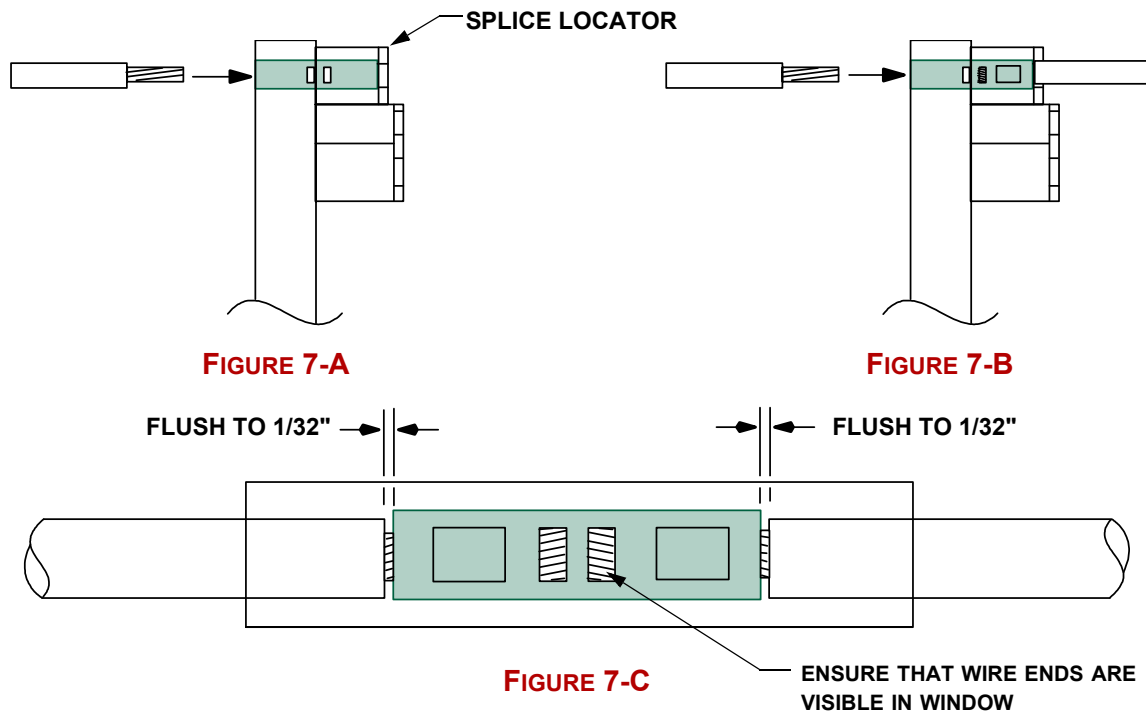

FIGURE 7 - CRIMPING OF ENVIRONMENT RESISTANT SPLICES
- Step 3. Place the environment resistant splice into the appropriate nest of the crimping tool so that the end of the splice butts against the splice locator (see Figure 7-A).
- Step 8. Repeat Step 3 through to Step 7 to crimp the wires into the second half of the connector (see Figure 7-B).
- Step 9. Check that the ends of the wire are visible in the window indent in the centre of the connector after crimping (see Figure 7-C).